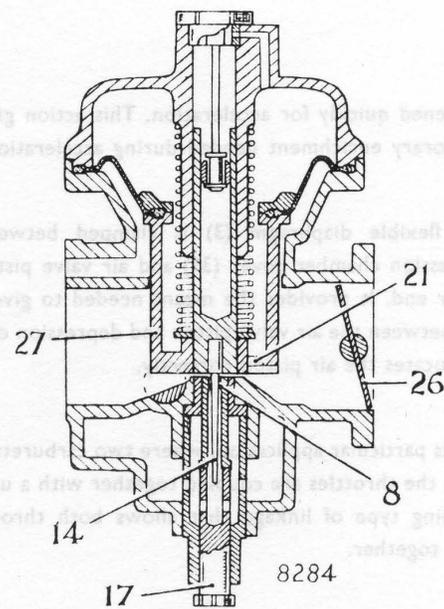

Fig. 5. Slow running operation
In this condition the piston air valve (27) rises a small amount from the carburettor body as shown in Fig. 5, and the amount of air passing under the air valve piston (27), and quantity of mixture used by the engine depends on the throttle opening which is set by the slow running speed adjustment screw shown in Fig. 2.